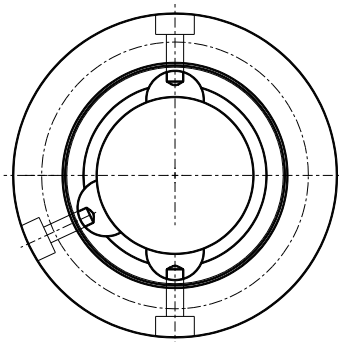

Fig. 4: Position of the oil filling screw
- Position the clutch coupling so that the oil filling screw around the circumference of the cover or flange are in the following position: two screws that are opposite each other must be vertically in line, the third screw is positioned from the side below the center (see Fig. 4)